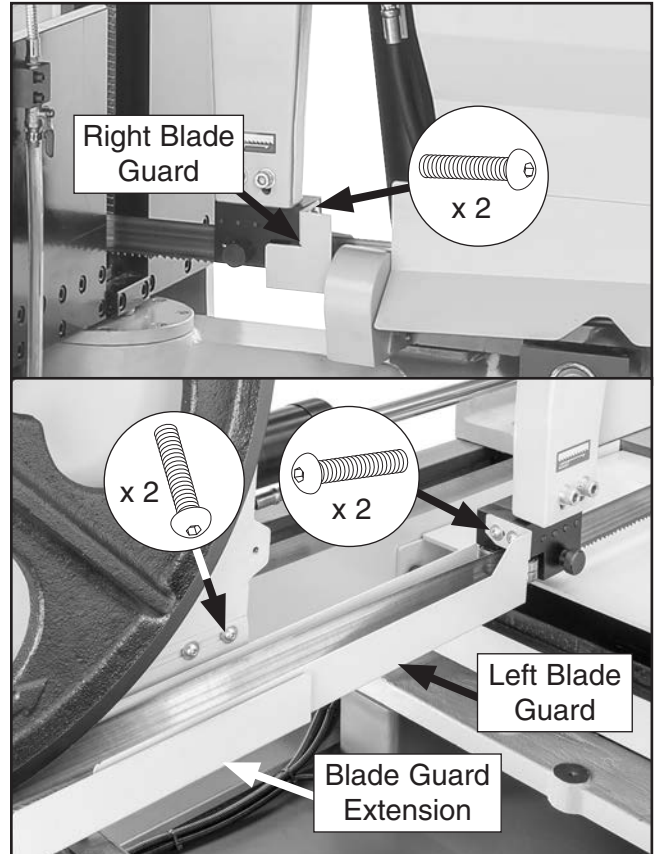

Figure 107. Location of blade guards and blade guard extension.
5. Remove both blade guards and blade guard extension by removing (6) button head cap screws and flat washers (see **Figure 107**).